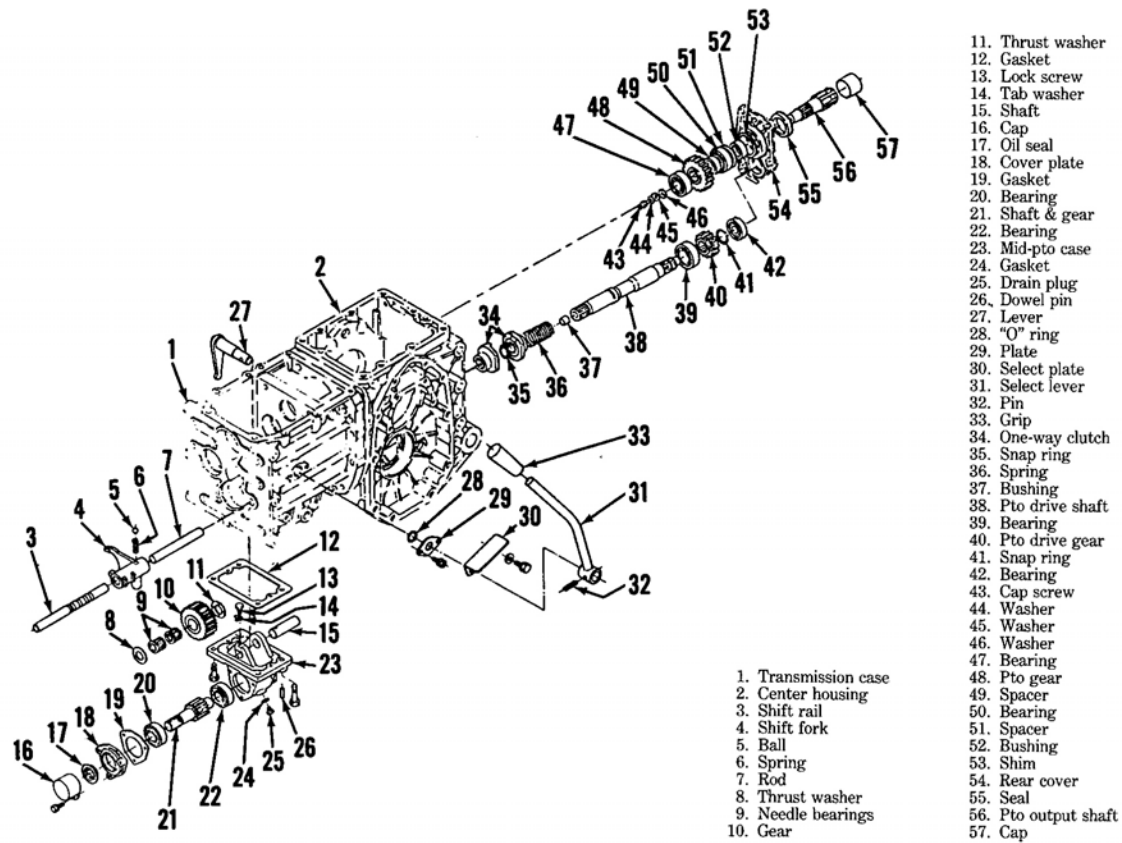

Fig. 88 — Exploded view of pto components used on Models B6100HST-D, B6100HST-E, B7100HST-D and B7100HST-E. Refer to text.
84. **R&R AND OVERHAUL.** Drain transmission/hydraulic system fluid into a suitable container. Raise hood and disconnect battery cable from negative battery post. To remove pto components located in center housing, first remove the six cap screws securing rear cover (54—Fig. 88) to center housing (2). Using a suitable mallet, lightly tap rear cover (54) to separate components, then withdraw rear cover with components (43 through 57). Using a suitable puller, extract bearing (42) from shaft end (38). Remove snap ring (41), then withdraw gear (40). To service one-way clutch (34) or extract pto drive shaft (38), first remove hydraulic lift cover as outlined in paragraph 99. Remove all components as needed that will obstruct in center housing and transmission case split. Using suitable holding fixtures, support center housing and transmission case, then split units apart. Remove snap ring (35) and withdraw one-way clutch half (34) and spring (36). Lightly tap front end of shaft (38) to break bearing (39)
85. **R&R AND OVERHAUL.** Service to pto components located in range transmission is outlined in paragraphs 69 and 70. Pto select linkage components are serviced with reference to Fig. 88 after removal of needed range transmission components to allow access to shift components.
86. **R&R AND OVERHAUL.** Drain transmission/hydraulic system fluid into a suitable container. Raise hood and disconnect battery cable from negative battery post. Remove the four cap screws securing case (23—Fig. 88) to bottom side of transmission case (1),
Fig. 90 — Exploded view of pto components used on Models B6100D, B6100E and B7100D. For identification of parts, refer to legend in Fig. 88 except for the following.
Disassembly of unit is evident after referral to Fig. 88. Inspect components and renew any which are damaged or excessively worn.